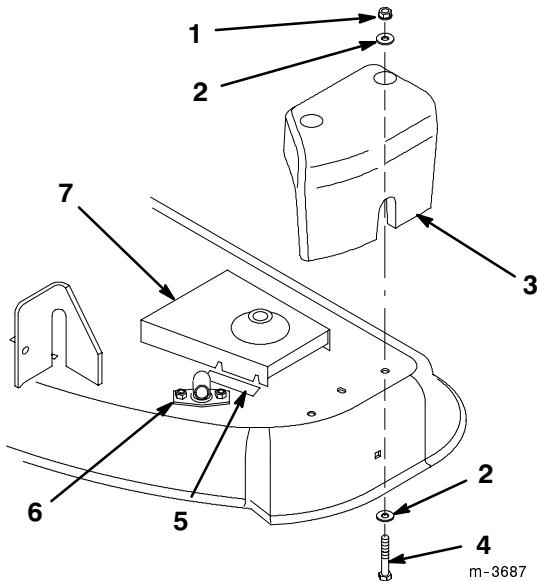

Figure 5
1. Position the mower deck counterweight on the left-hand side of the mower so that it fits snuggly against the side of the mower (Fig. 5).
2. Using a punch in the holes of the counterweight, mark the location for drilling (2) 13/32" holes. Remove the counterweight and drill the holes.
3. Secure the counterweight to the top of the mower deck with (2) 3/8 x 2-1/4 (57 mm) bolts, (4) 3/8" (10 mm) flat washers, and (2) 3/8" locknuts.